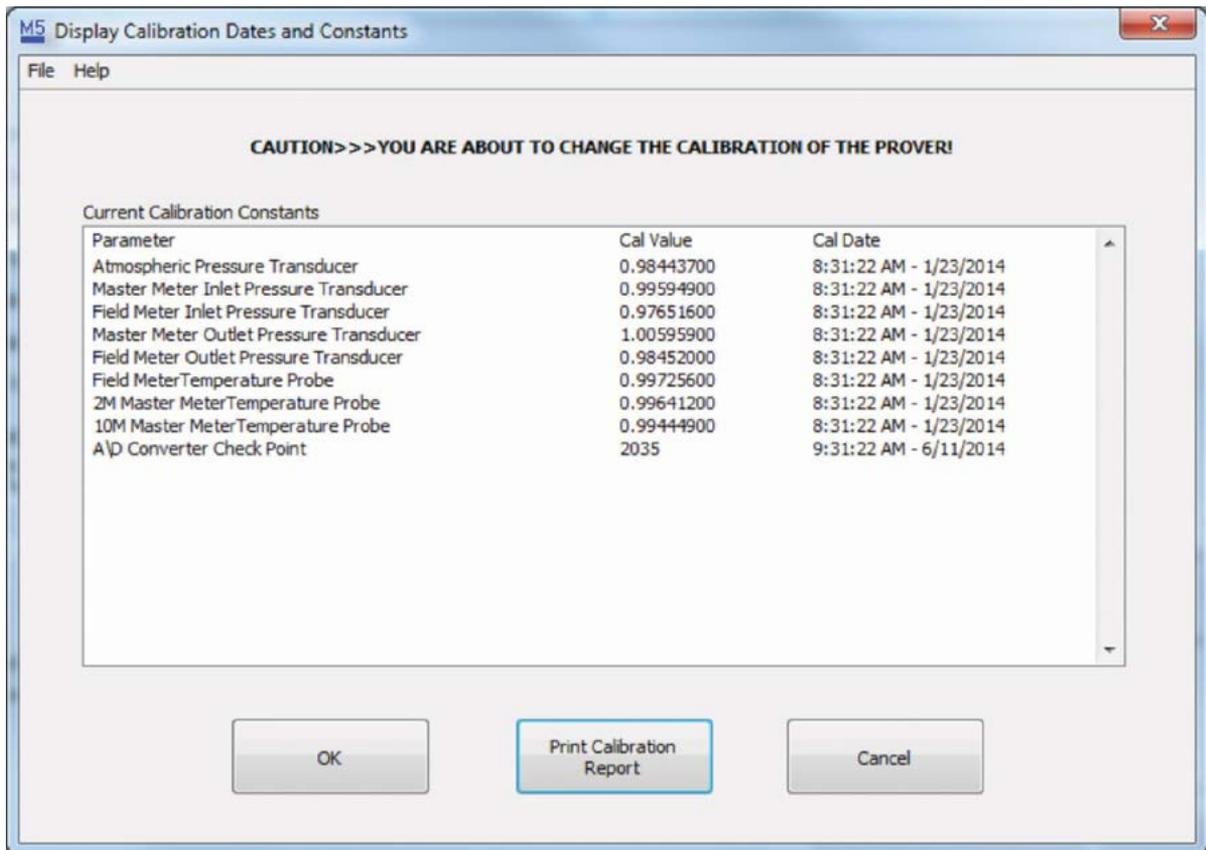

Figure 125: Calibration Warning Window
7. A third window will appear as shown in **Figure 125**. It will warn the user with the following message, "Caution, you are about to change the calibration of your Prover". Click "OK".